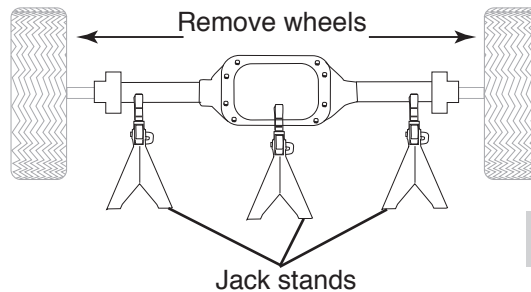

fig. 2
1. Jack up the rear of the vehicle using a jack or a hoist. Support the rear axle with jack stands and remove the rear wheels (fig. 2).